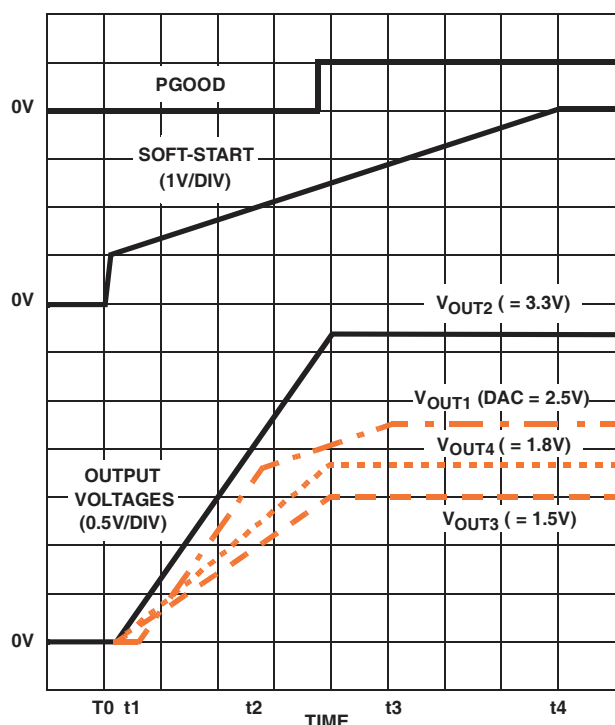

FIGURE 3. SOFT-START INTERVAL
Figure 3 shows the soft-start sequence for the typical application. At t_0 the SS voltage rapidly increases to approximately 1V. At t_1 , the SS pin and error amplifier output voltage reach the valley of the oscillator's triangle wave. The oscillator's triangular wave form is compared to the clamped error amplifier output voltage. As the SS pin voltage increases, the pulse-width on the PHASE pin increases. The interval of increasing pulse-width continues until each output reaches sufficient voltage to transfer control to the input reference clamp. If we consider the 2.5V core output (V_{OUT1}) in Figure 3, this time occurs at t_2 . During the interval between t_2 and t_3 , the error amplifier reference ramps to the final value and the converter regulates the output a voltage proportional to the SS pin voltage. At t_3 the input clamp voltage exceeds the reference voltage and the output voltage is in regulation.
the fault latch. The overcurrent latch is set dependent upon the states of the overcurrent (OC), linear undervoltage (LUV) and the soft-start signals. A window comparator monitors the SS pin and indicates when C_{SS} is fully charged to 4V (UP signal). An undervoltage on either linear output (VSEN2, VSEN3, or VSEN4) is ignored until after the soft-start interval (t_4 in Figure 3). This allows V_{OUT2} , V_{OUT3} , and V_{OUT4} to increase without fault at start-up. Cycling the bias input voltage (+12V_{IN} on the VCC pin off then on) resets the counter and the fault latch.
Initially, the soft-start function clamps the error amplifier's output of the PWM converter. This generates PHASE pulses of increasing width that charge the output capacitor(s). After the output voltage increases to approximately 70% of the set value, the reference input of the error amplifier is clamped to a voltage proportional to the SS pin voltage. The resulting output voltages start-up as shown in Figure 3.